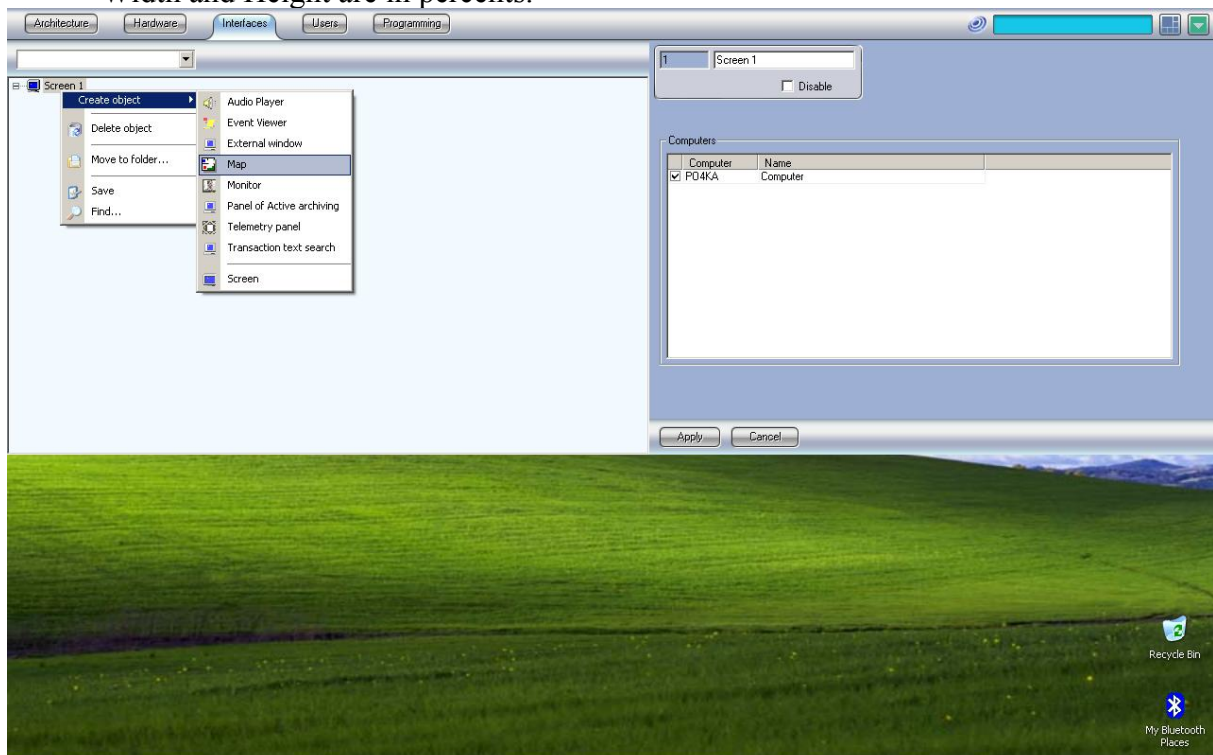
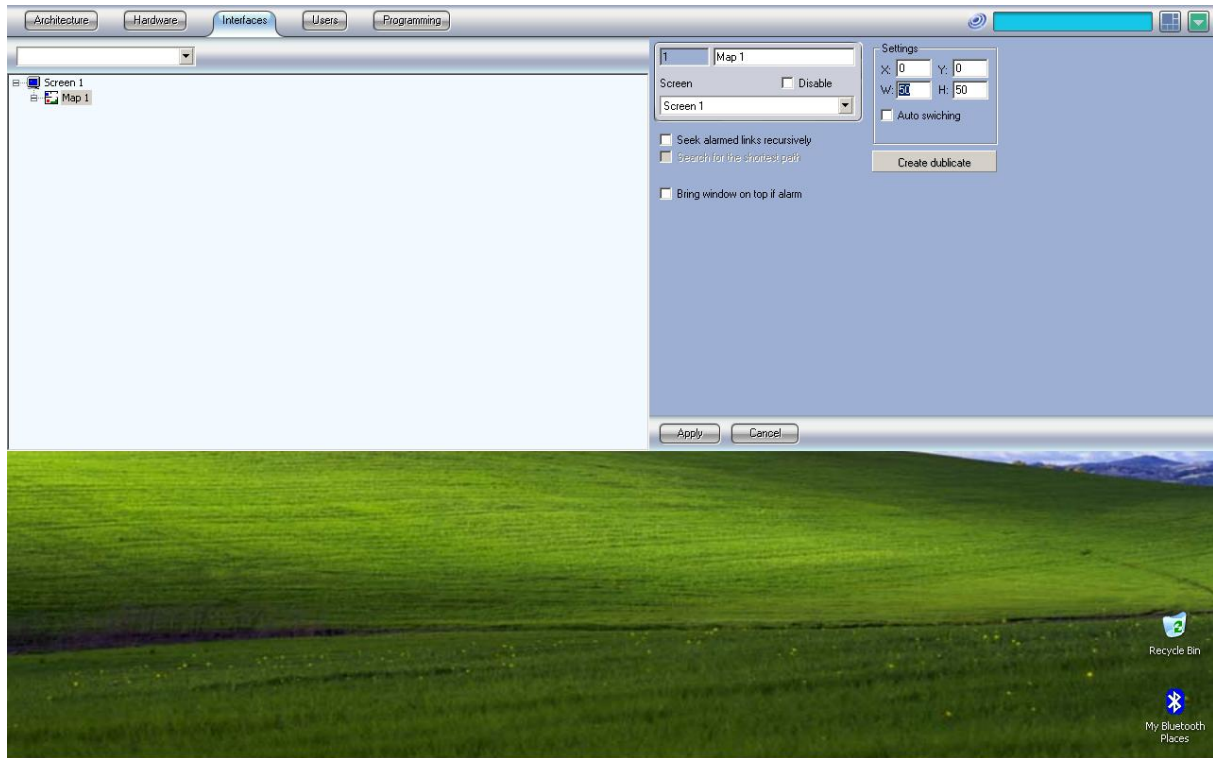

fig.17
fig.18
3) After you have created and activated the screen next step is to create a map (fig. 17). The position and size of the map are set from the map “Settings” (fig. 18). Width and Height are in percents.